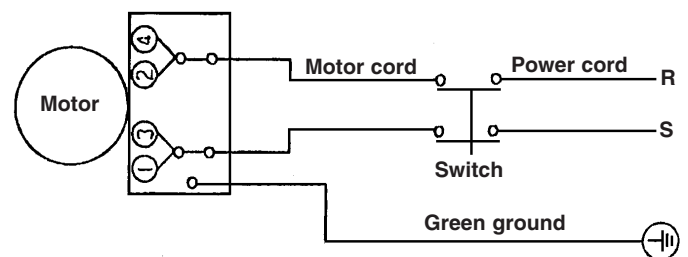
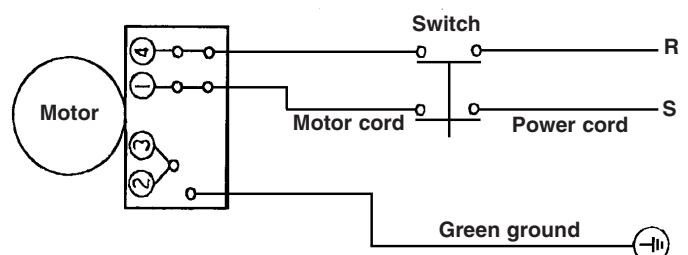

FIGURE 1C
FIGURE 1D
2. The dust collector comes with four motor leads that are connected for 120V operation as shown in Fig.1C. Reconnect these four motor leads for 240V operation, as shown in Fig.1D.